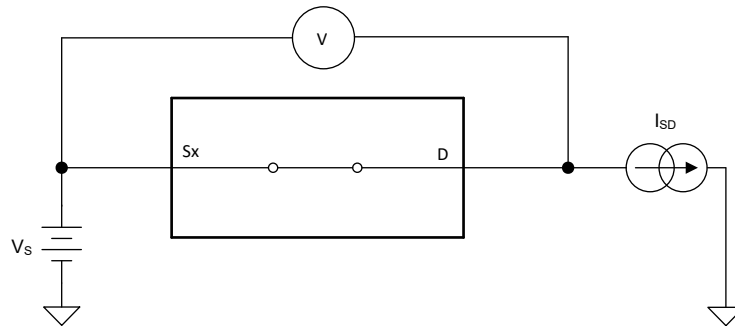

图 18. On-Resistance Measurement Setup
The on-resistance of a device is the ohmic resistance between the source (Sx) and drain (D) pins of the device. The on-resistance varies with input voltage and supply voltage. The symbol  $R_{ON}$  is used to denote on-resistance. The measurement setup used to measure  $R_{ON}$  is shown in 图 18. Voltage (V) and current ( $I_{SD}$ ) are measured using this setup, and  $R_{ON}$  is computed with  $R_{ON} = V / I_{SD}$ :